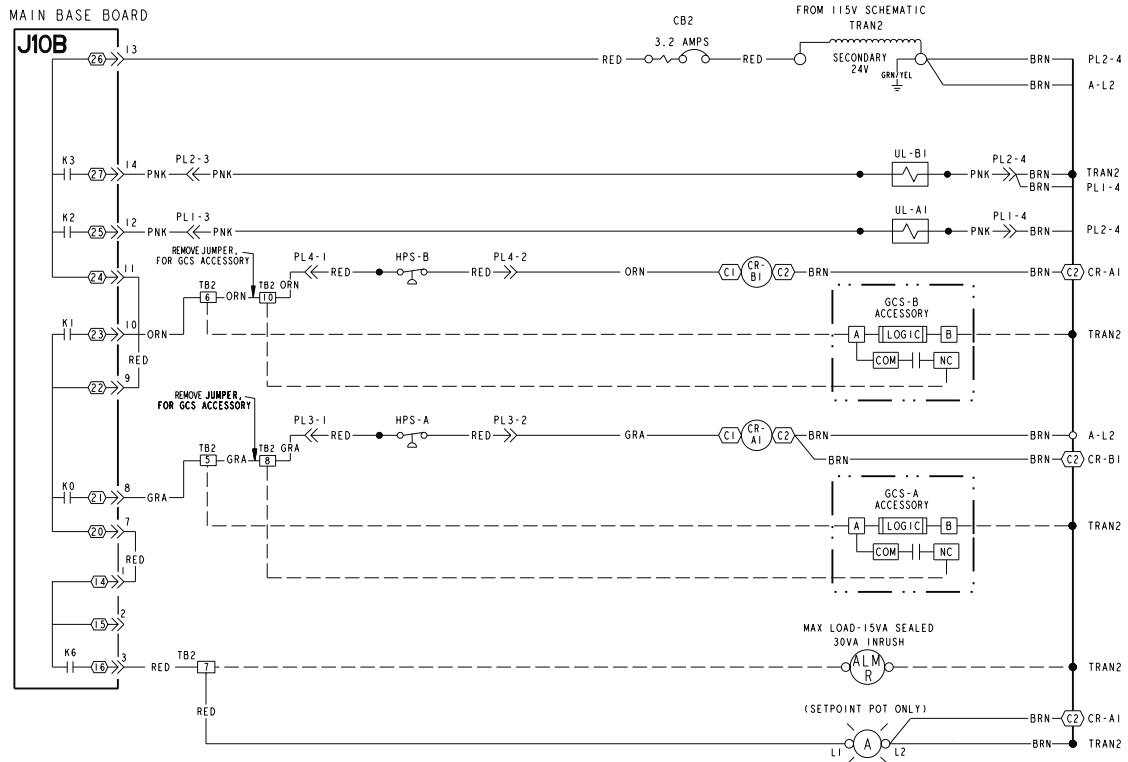
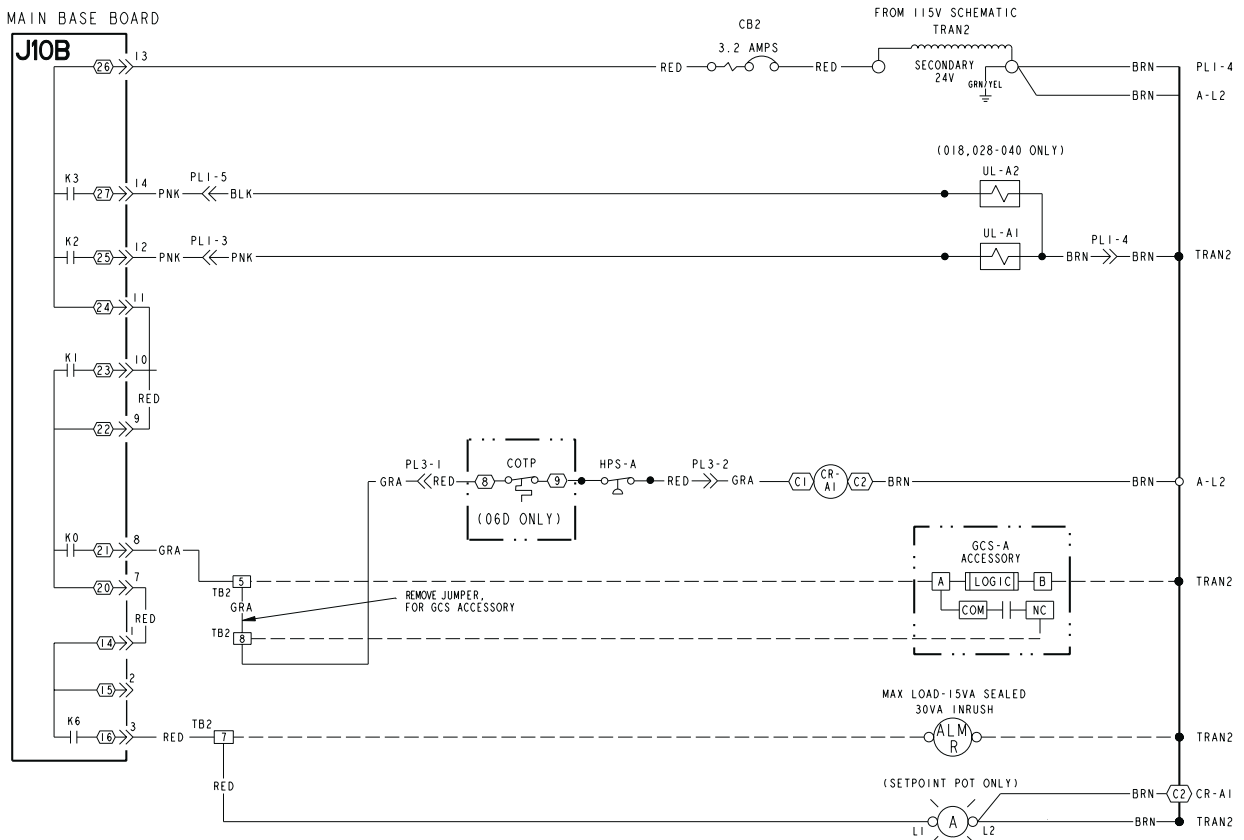

Fig. 12 — 30HK,HL Ground Current Sensor Field Control Wiring, ComfortLink™ Units
Fig. 13 — 30HW, 30GTN Ground Current Sensor Field Control Wiring, ComfortLink Units
2. Remove GRAY jumper wire between TB2-5 and TB2-8 for compressor A1. On 30HK,HL units, remove the ORANGE jumper wire between TB2-6 and TB2-10 for compressor B1. See Fig. 12 for 30HK,HL units. See Fig. 13 for 30HW and 30GTN units.
Fig. 12 for 30HK,HL units. See Fig. 13 for 30HW or 30GTN units.
5. Using field supplied wire, connect GCS-A-B to TRAN2-SEC-L2. For 30HK,HL units, connect GSC-B-B to TRAN2-SEC-L2. See Fig. 12 for 30HK,HL units. See Fig. 13 for 30HW or 30GTN units.